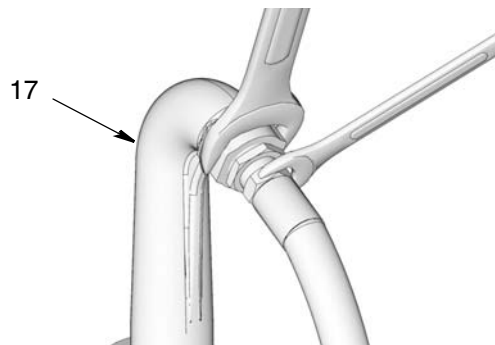

FIG. 20
5. Attach end of the hose to the outlet (17) using two wrenches on the flats, working in opposite directions, to securely tighten the hose to the outlet fitting (FIG. 20).